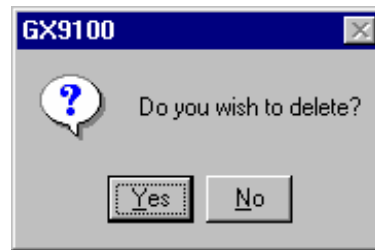

Figure 14-3: Confirm Deletion Dialog Box
2. Right-click selected modules, to select multiple points, hold down Ctrl and click points. Select Delete from the pop-up menu that appears. A GX9100 dialog box appears to confirm deletion (Figure 14-3).